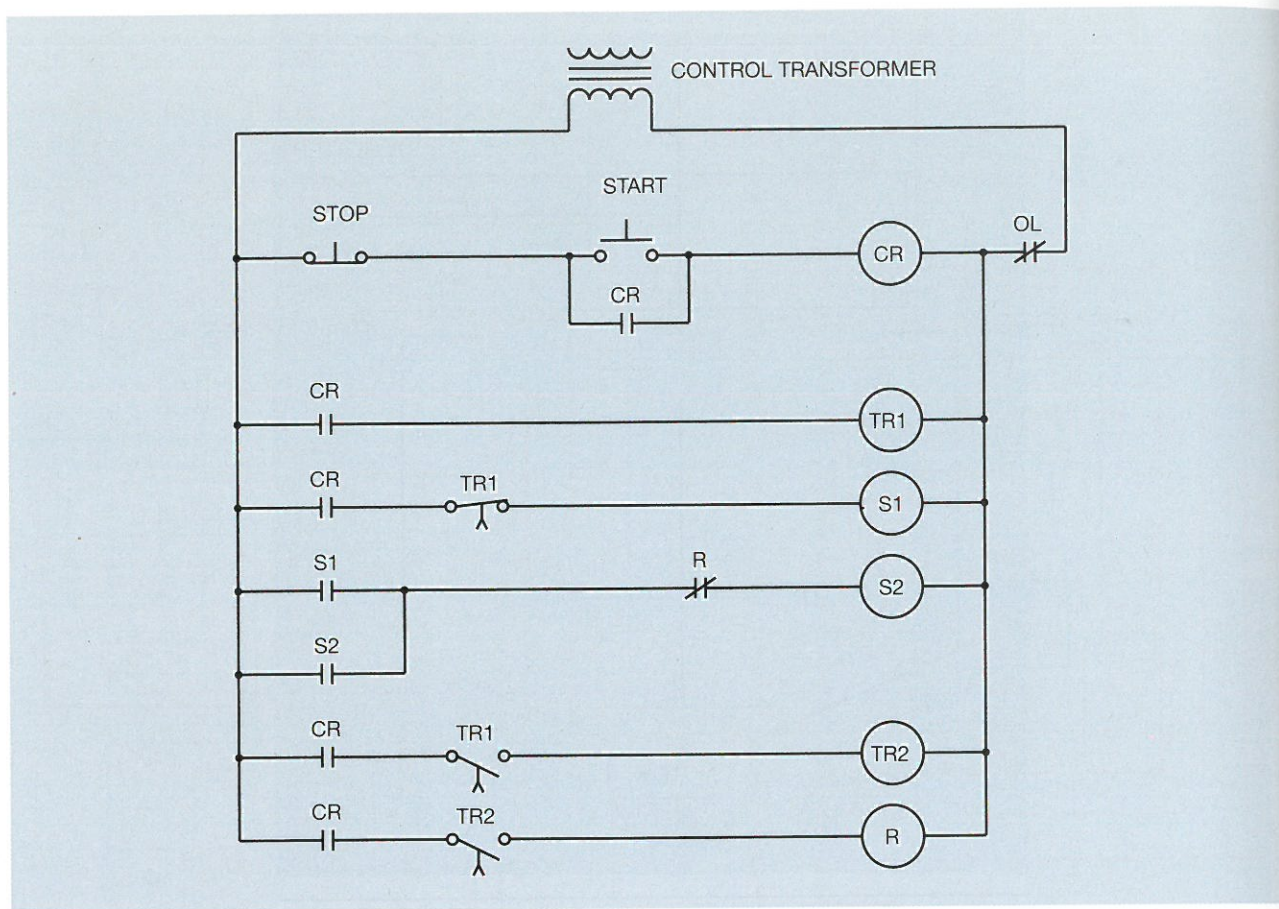

Figure 25-5 Closed transition starting circuit.
6. Refer to the circuit shown in Figure 25-5. Assume that timer TR1 is set for a delay of 10 seconds and timer TR2 is set for a delay of 5 seconds. After the START button is pressed, how long is the time delay before the S1 contacts open?
7. Refer to the circuit shown in Figure 25-5. Assume that timer TR1 is set for a delay of 10 seconds and timer TR2 is set for a delay of 5 seconds. From the time the START button is pressed, how long will it take the motor to be connected to full line voltage?
8. Refer to the circuit shown in Figure 25-5. Explain the steps necessary for coil S2 to energize.
9. Refer to the circuit shown in Figure 25-5. What causes contactor coil S2 to de-energize after the motor reaches the full run stage?
10. Refer to the circuit shown in Figure 25-5. Assume that timer TR1 is set for a delay of 10 seconds and timer TR2 is set for a delay of 5 seconds. When the START button is pressed, the motor starts. After 10 seconds the S1 contacts open and the motor continues to accelerate, but never reaches full speed. After a delay of about 30 seconds, the motor trips out on overload. Which of the following could cause this problem?